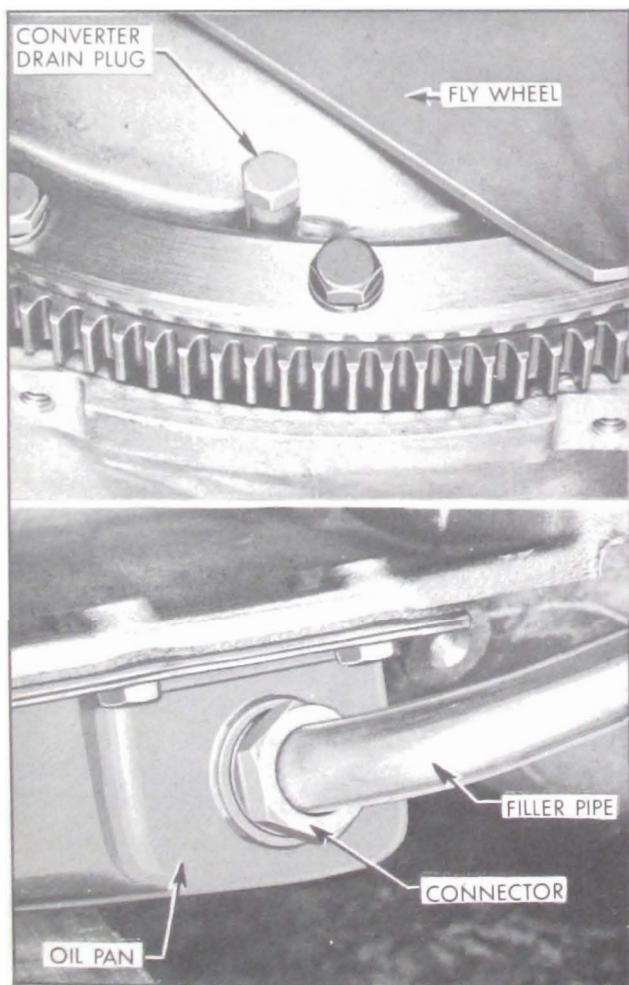

Figure 1-15—Automatic Transmission Drain Points
2. Loosen one converter drain plug, then turn converter until opposite drain plug is straight down and remove this plug to allow converter to drain completely. See Figure 1-15.
3. Remove filler pipe fitting from oil pan and allow oil pan to drain completely. Do not remove accumulator caps. See Figure 1-15.
5. Put 3 quarts of specified oil (subparagraph a) in transmission. With engine idling and transmission in Parking (P) complete the refilling to bring oil level to "FULL" mark on gauge rod. When transmission oil is warmed up, the oil level should then be at "FULL" mark on gauge rod.